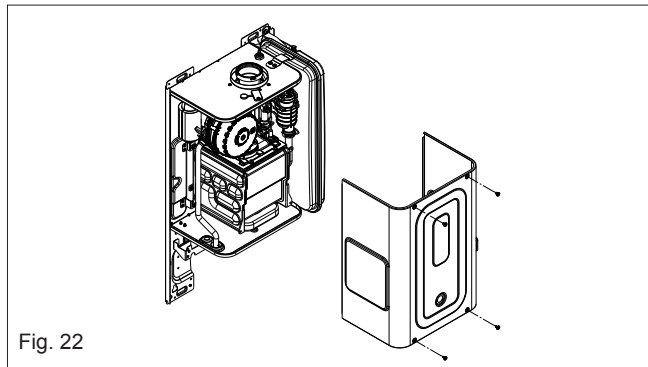

Fig. 22
6.4.1 AIR BOX FRONT COVER REMOVAL (fig. 22)